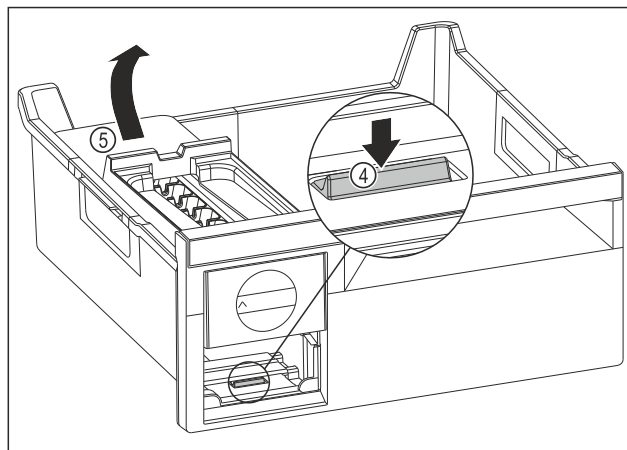

Fig. 148
- Removing the EasyTwist-Ice body: Use your finger to push the tab Fig. 148 (4) down and use your other hand to lift the EasyTwist-Ice body Fig. 148 (5) from behind at the same time.